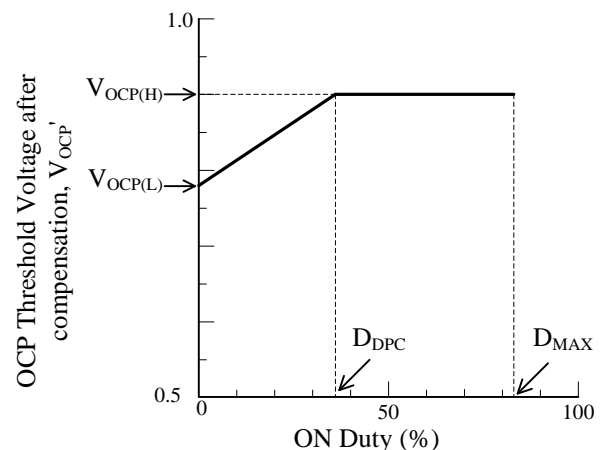

Figure 9-15. Relationship between ON Duty and Drain Current Limit after Compensation
The Input Compensation Function is the function of correction of OCP threshold voltage depending with AC input voltage, as shown in Figure 9-15. When AC input voltage is low (ON Duty is broad), the OCP threshold voltage is controlled to become high. The difference of peak drain current become small compared with the case where the AC input voltage is high (ON Duty is narrow). The compensation signal depends on ON Duty. The relation between the ON Duty and the OCP threshold voltage after compensation V_{OCP}' is expressed as Equation (6). When ON Duty is broader than 36 %, the V_{OCP}' becomes a constant value $V_{OCP(H)} = 0.9 \text{ V}$